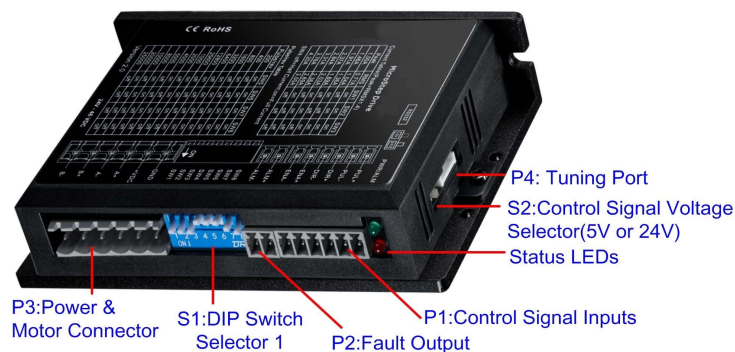

Figure 2 Connectors, DIP switches, and LED locations
PUL+	Pulse and Direction Connection: (1) Optically isolated, high level 4.5-5V or 24V, low voltage 0-0.5V (2) Maximum 200 KHz input frequency (3) The width of PUL signal is at least 2.5μs, duty cycle is recommended 50% (4) DIR signal requires advance PUL signal minimum 5 μs in single pulse mode (5) The factory setting of control signal voltage is 24V, must need to set S2 (figure 2) if it is 5V
The P4 connector in Figure 2 is a RS232 communication port for PC connection. Refer to the following pin definitions. It is just used to modify parameter, not for equipment control because neither precision nor stability is sufficient. If you
The DMD5042E can accept can accept differential or single-ended control signals (pulse, direction, and enable) in open-collector or PNP connection through the P1 connector (figure 2). It is recommend to add an EMI line filter between the power supply and the drive to increase noise immunity for the drive in interference environments.
- (1) ENA signal is no-connected as default;
- (2) Control signal amplitude is 24 V as default. If it is 12 V, please set the S2 (Figure 2) selector switch to 5 V first, then connect 1K Ω resistor; If it is 5V, please set the S2 to 5V.
The second 1-bit selector is located on the top (S2 in figure 2), used to configure the voltage of control signals. For the safety of optically coupled, the factory setting is 24V, which no need to connect 2K resistors like the old drives, making it easier to use. When the voltage of the control signal is 5V, the S2 must be set to 5V, otherwise, the motor won't work.